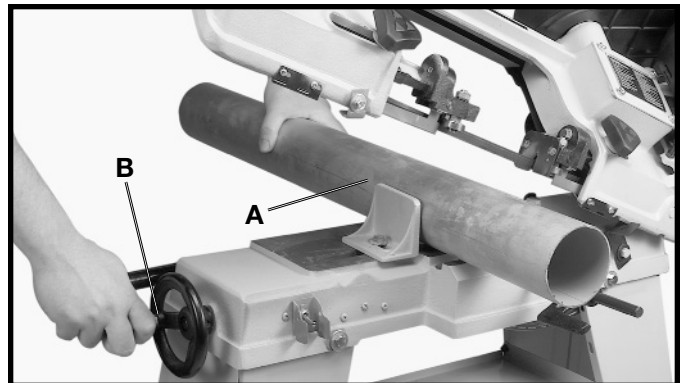

Fig. 24
The workpiece (A) is placed between the vise jaws with the required amount to be cut-off extending out past the blade, as shown in Fig. 24. To tighten the workpiece in the vise, turn handwheel (B).
The horizontal band saw cuts all types of metals, including ferrous and non-ferrous metal, steel pipe, angle iron, conduit, brass, aluminum and copper. As shown in Fig. 24 and 25, workpieces can be cut at 90 or tilted to any angle in the vise.